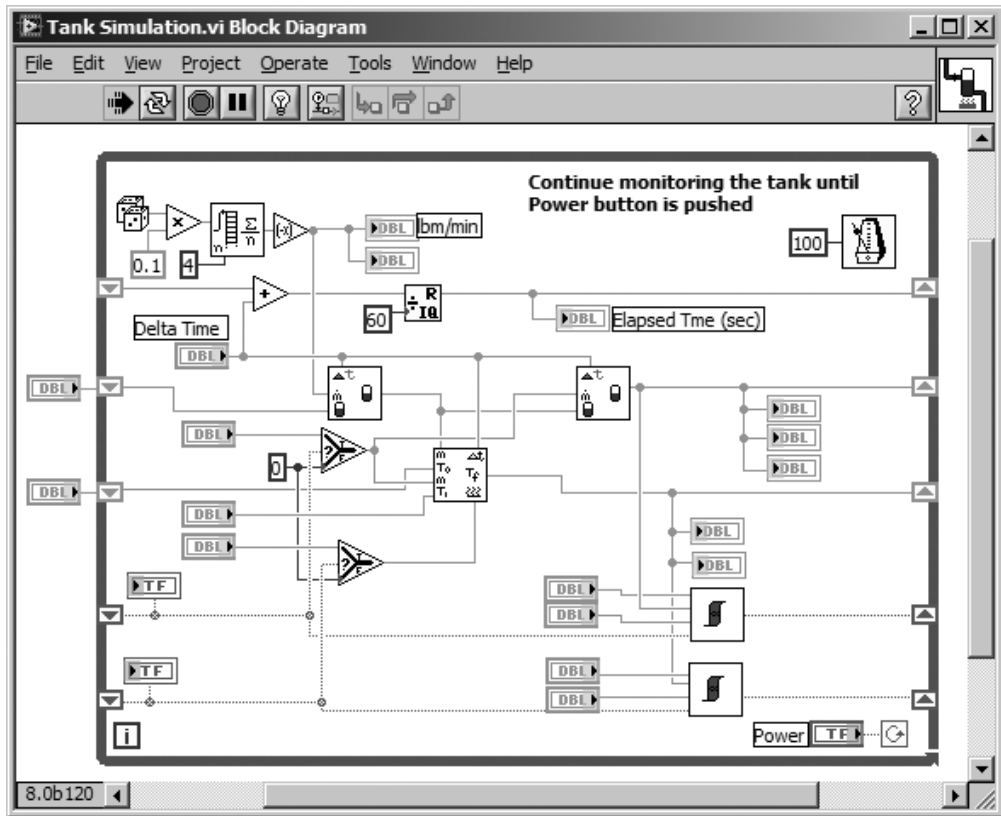

Figure 1.5
- The *block diagram* is the VI's source code, constructed in LabVIEW's graphical programming language, G (see Figure 1.5). The block diagram is the actual executable program. The components of a block diagram are lower-level VIs, built-in functions, constants, and program execution control structures. You draw wires to connect the appropriate objects together to define the flow of data between them. Front panel objects have corresponding terminals on the block diagram so data can pass from the user to the program and back to the user.